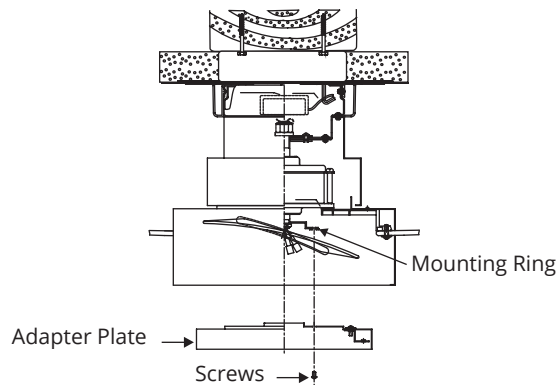

FIGURE 15
1. Carefully tuck the wire connections inside the junction box. Secure the wall control with the two wall control mounting screws provided. (Fig. 15)
2. Place the key holes in the adapter plate over the two screws previously loosened from the mounting ring. Turn the adapter plate until the adapter plate locks in place at the narrow section of the key holes. (Fig. 15)